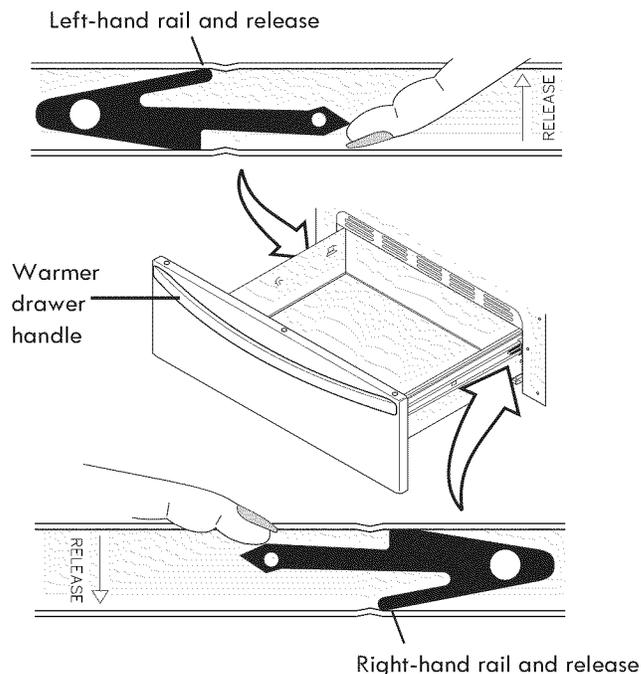

Figure 39: Warmer drawer releases
3. On left warmer drawer rail, locate black release lever and press up with finger while pulling out slightly on the oven drawer handle. On right warmer drawer rail, locate black release lever and press down with finger while pulling out slightly on the warmer drawer handle (Figure 39).